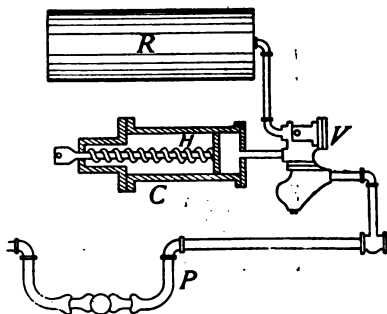

FIG. 50.—Cross-section of a Westinghouse air brake.
68. The Air Brake.—Compressed air is used to do work in many machines, such as pneumatic drills, hammers, and air brakes. The Westinghouse air brake (Fig. 50) uses air at a pressure of about 70 lbs. to the square inch. The essential parts as shown are a reservoir *R*, the brake cylinder *C*, and a triple valve *V*, placed under each car with an air pipe *P*, leading to the engine. This is connected to *R* by the triple valve *V*. When the pressure in *P* is reduced by the engineer or by accident, the